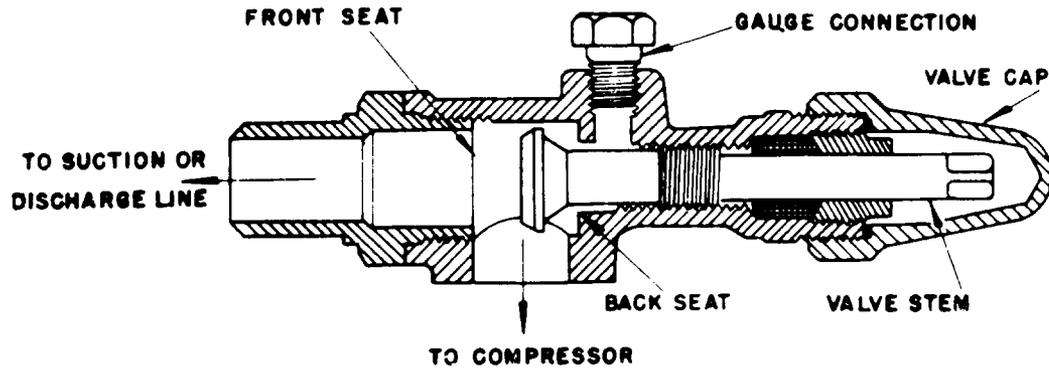

Fig. 6 — Cross Section of Service Valve
3.09 Service Valves: Most compressors are equipped with suction and discharge service valves to aid in service operations, Fig. 6. The discharge valve is bolted to the head and the suction valve to either the body or head of the compressor. The valve is known as a back-seating type so that when the stem is turned all the way out, the pressure gauge port and packing are shut off. During normal operation the valve stem is back-seated (see Paragraph 4.02), leaving the line connection open to the compressor. If the valve is closed the gauge port is open to the compressor and the line is shut off. With the stem in midposition the compressor is always open to both the line and the gauge port. Most refrigerant valves are double-seated so that the packing may be changed with a minimum of difficulty. All refrigeration valves should be opened and closed only after the tension has been relieved from the packing by slacking off the packing gland nut one-half turn. The valve stem packing is usually a lead alloy and excessive tightening will damage it and require its replacement. All valve stem caps for packed type valves have gaskets for sealing the valve stem chamber. The gasket must be in place before replacing the cap. On packless valves no leverage other than hand pressure should be used to close the valve; otherwise the diaphragm will be damaged.